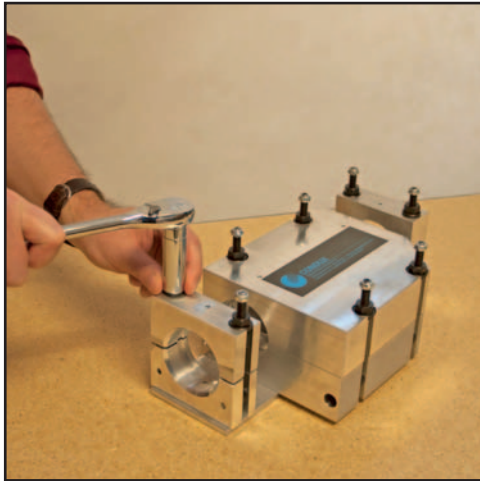

Figure 1. Loosen Nuts
1. Loosen the 8 nuts on the Y-Block assembly (Figure 1). Remove Innerduct Clamp (Figure 2) and Air Block Cover (Figure 3).